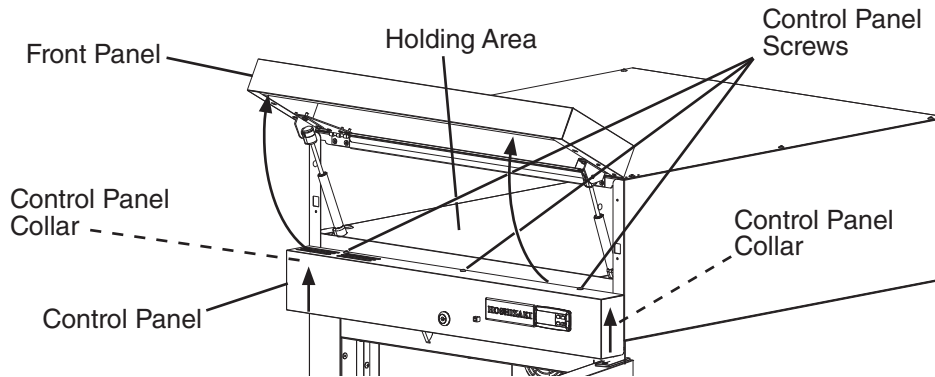

Fig. 15
- 2) Raise the front panel, then remove the control panel screws. Next, lift the control panel up and lift off of the control panel collars. Be careful not to pull the wires on the control module and door switch(es), remove the control panel and place in the holding area above the control panel. See Fig. 15.